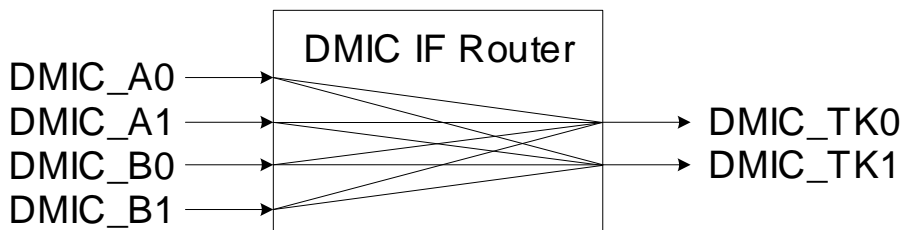

Figure 35: DA7400 DMIC Interface Router
De-interleaved DMIC input data signals are routed through a register-configurable router, see Section 15.9.2. The router allows complete freedom in connecting DMIC input data to internal microphone talk (TK) signals, see Figure 35. The talk path is muxed with the ADC in the input filters of the input path block, see Section 10.